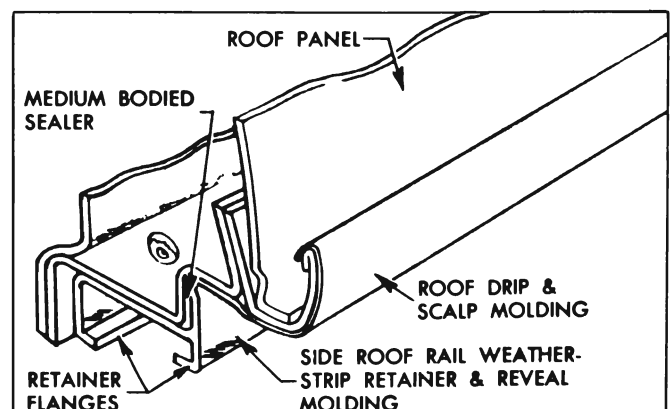

Figure 13-198—Side Roof Rail Weatherstrip Retainer and Molding Sealing
2. Apply medium-bodied sealer along upper rabbet of retainer and reveal molding, as shown in figure 13-198, along entire length of molding.
2. Loosen weatherstrip retainer attaching screws slightly in area to be adjusted then with a wooden block or suitable tool against flange of the retainer, figure 13-198, tap tool lightly to position retainer in or out, as required.